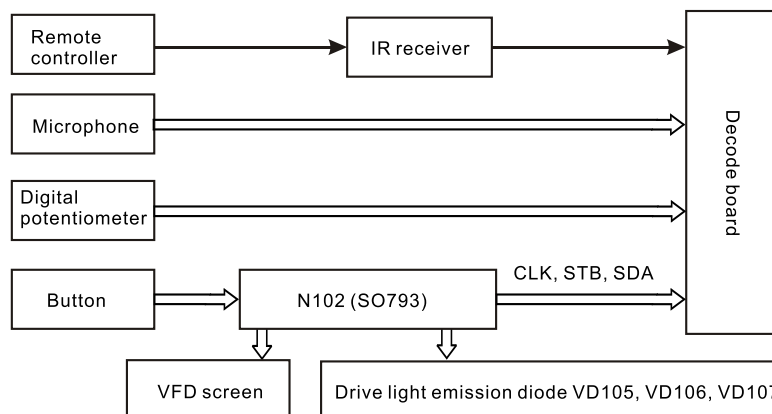

Figure 3.2.9.1 Control panel components block diagram
1. Control panel components block diagram is shown as the following figure 3.2.9.1: